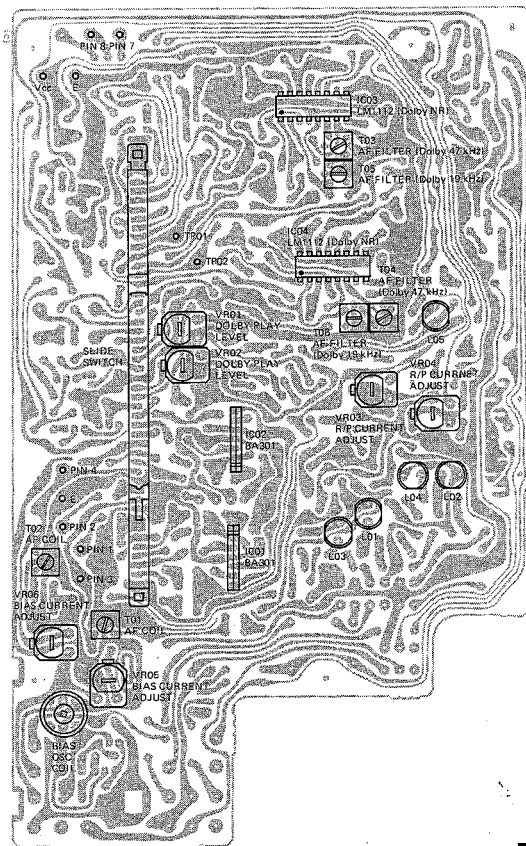

Fig. 4
1. Play back the test tape (Example: TEAC MTT-150). Then, adjust VR01 and VR02 until the voltages of TP01 and TP02 become 580 mV. (Fig. 4)